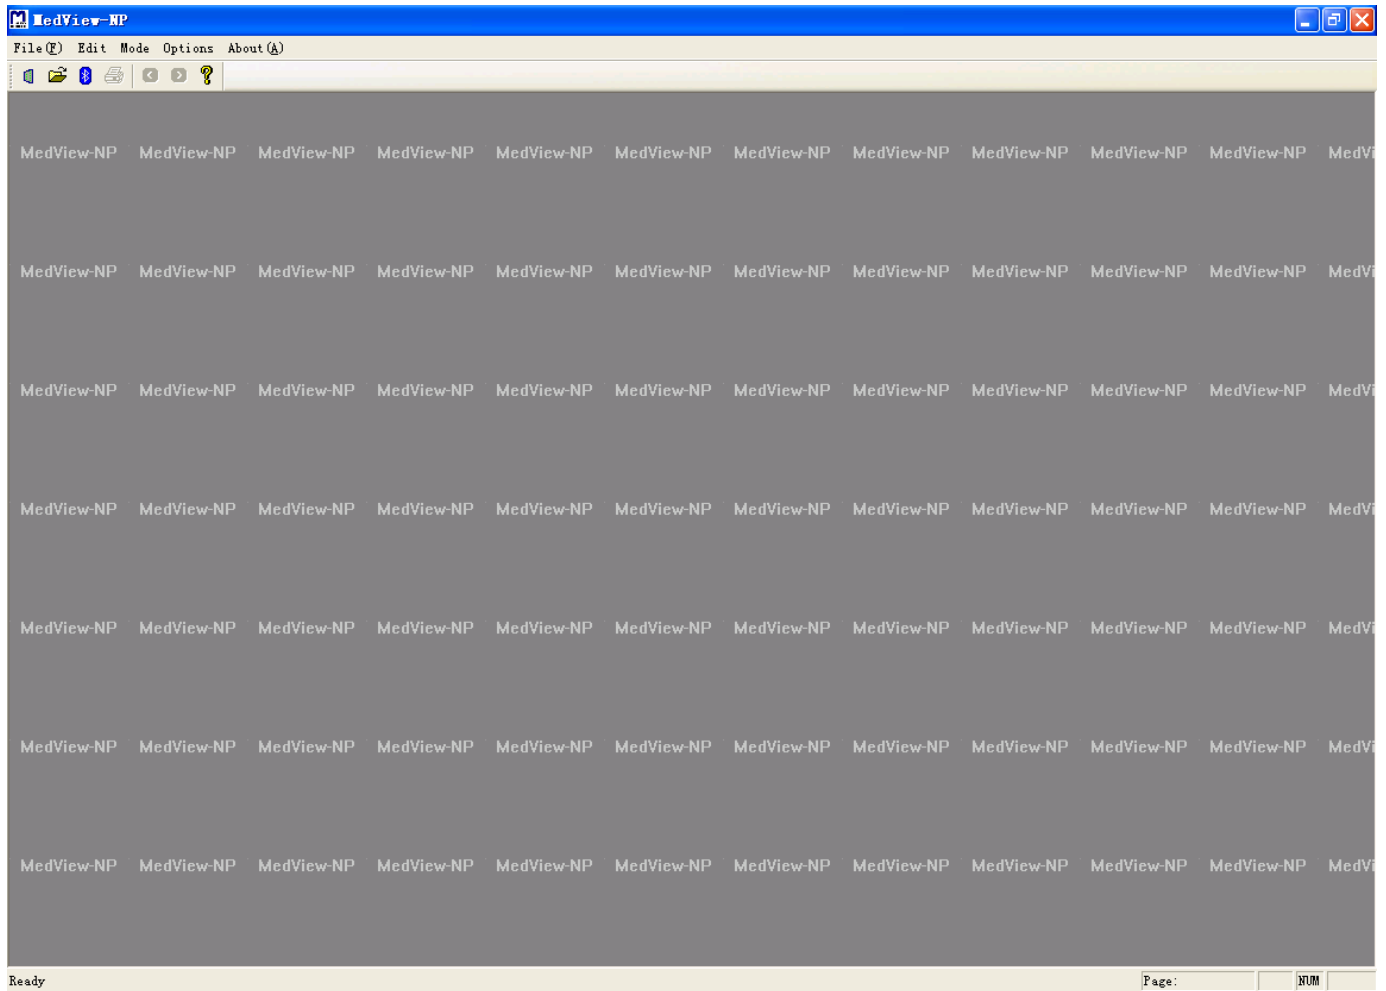
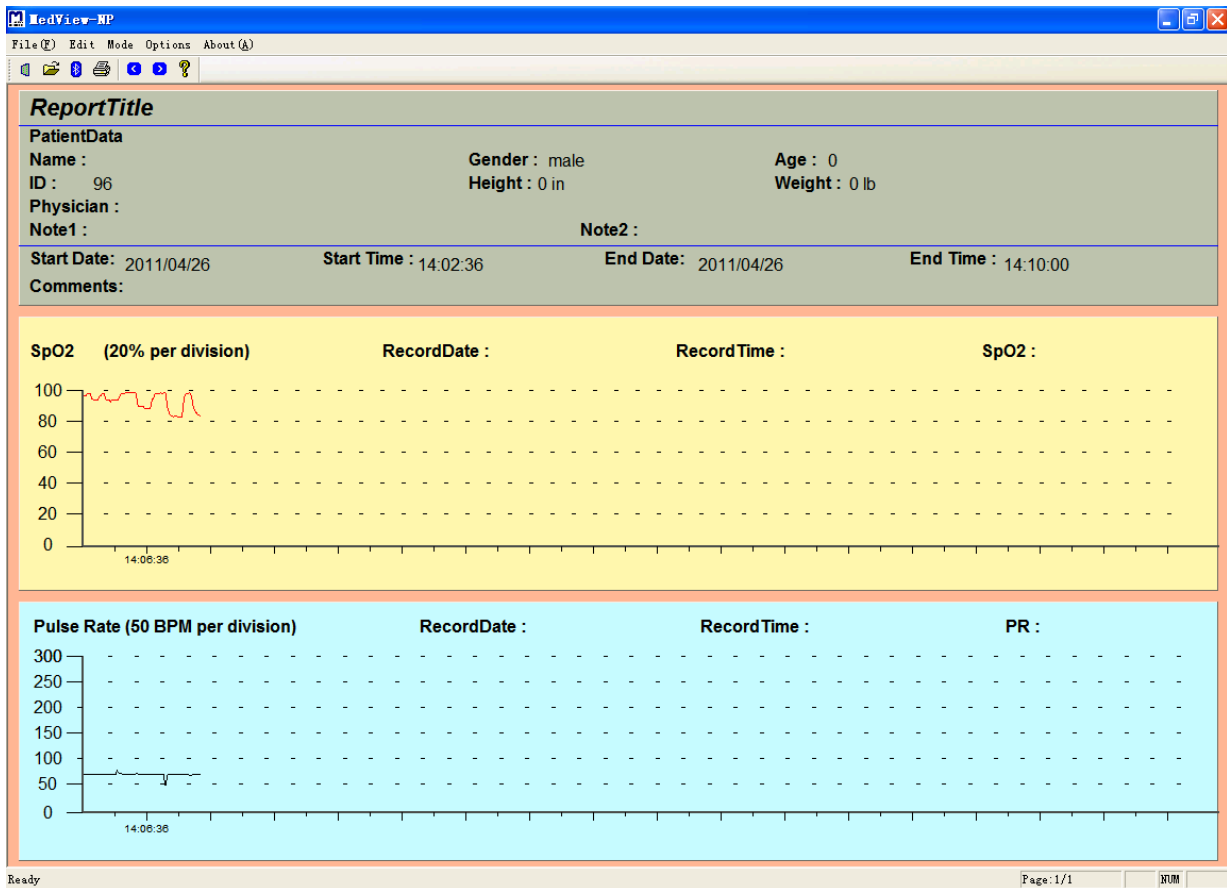

Figure 3-1
Figure 5-1
3.1.1 Double-click the icon “MedView-NP” on the desktop, the following screen will appear, as shown in Figure 3-1.
3.2.1 Click “File(F)” in the interface as shown in Figure 3-1, then the following figure will appear.
Click “Mode” icon in the interface as shown in Figure 3-1, then click “Trend” item in the drop-down menu as shown in Figure 5-1.